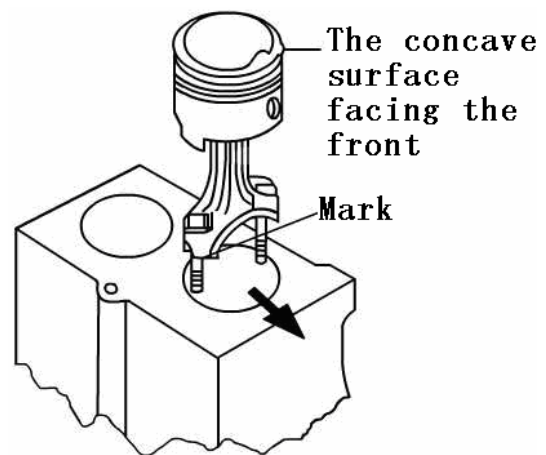

Fig.3-9 *The direction of piston and connecting rod in cylinder*
- (1) Connecting rod bearing matching group number=connecting rod big end matching group number-connecting rod neck matching group number。
- (2) Upper and lower connecting rod should be fitted with the same group bearing。
- B. When installing two gas ring and the combined oil ring into grooves of piston. Stagger their opening (fig.3-9). The marked surface of the first and second rings should face piston head